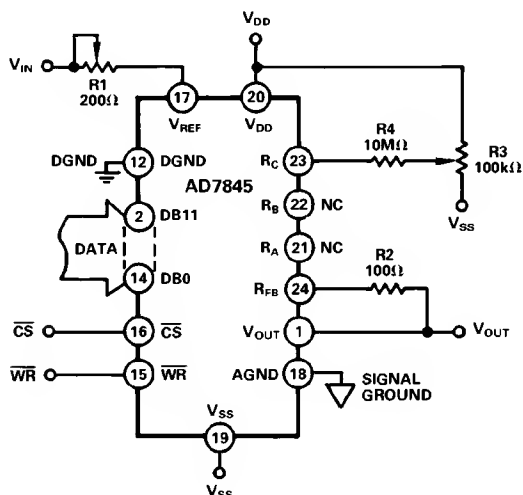

Figure 13. Unipolar Binary Operation
Gain error is a measure of the output error between an ideal DAC and the actual device output with all 1s loaded after offset error has been adjusted out. Gain error is adjustable to zero with an external potentiometer. See Figure 13.
Figure 13 shows the AD 7845 connected for unipolar binary operation. When  $V_{IN}$  is an ac signal, the circuit performs 2-quadrant multiplication. The code table for Figure 13 is given in Table I.
### OFFSET AND GAIN ADJUSTMENT FOR FIGURE 13
**Temperature Coefficients:** The gain temperature coefficient of the AD 7845 has a maximum value of 5 ppm/°C. This corresponds to worst case gain shift of 2 LSBs over a 100°C temperature range. When trim resistors R1 and R2 in Figure 13 are used to adjust full-scale range, the temperature coefficient of R1 and R2 must be taken into account. The offset temperature coefficient is 5 ppm of FSR/°C maximum. This corresponds to a worst case offset shift of 2 LSBs over a 100°C temperature range.